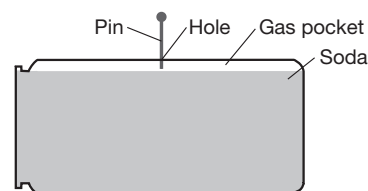

Figure 2.
3. This step can get messy and should be done near a sink or even outdoors! Remove the soda can from the swivel and lay the soda can on its side. Push a pin in the side of the can about halfway up, and then withdraw the pin (see Figure 2). *Note:* If the can is kept horizontal and the hole is made on the very top of the curve, soda should not squirt out of the hole!